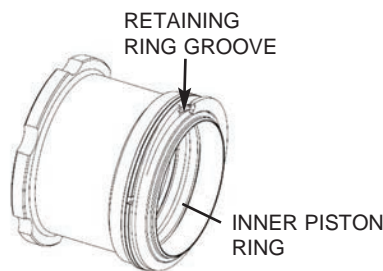

Figure 18C
2. Push the retaining ring over the piston into the retaining ring groove. Start with one end of the ring engaged in the groove and work around clockwise or counter clockwise (Figure 18C).